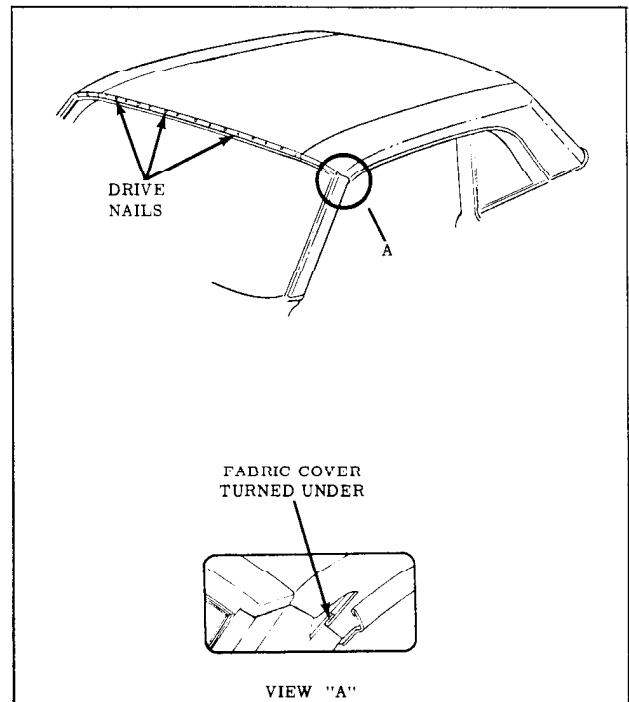

Fig. 15-60 Folding Material at Windshield Pillar
9. At upper end of right and left windshield pillars, turn 1/2 inch of fabric material under cover assembly to form a finished seam across pillars. Seam should be even and parallel with upper edge of windshield opening. (View "A", Fig. 15-60)